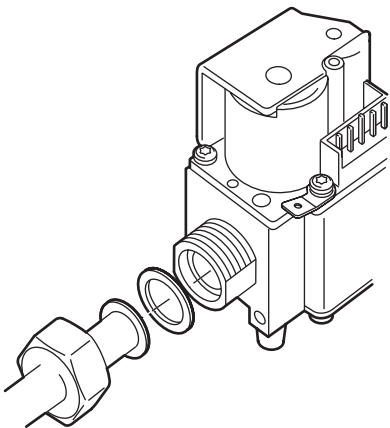

Fig. 4. External thread connection with nut and flat sealing ring
- 1 With 1/2" nut and flat sealing ring for pipe 14 mm (fig. 4 .)
- 2 With 1/2" nut and flat sealing ring for pipe 15 mm (fig. 4 .)
- ⑤ With $\frac{3}{4}$ " nut and flat sealing ring for pipe 15 mm (fig. 4 .)
- ⑥ With $\frac{3}{4}$ " nut and flat sealing ring for pipe 18 mm (fig. 4 .)